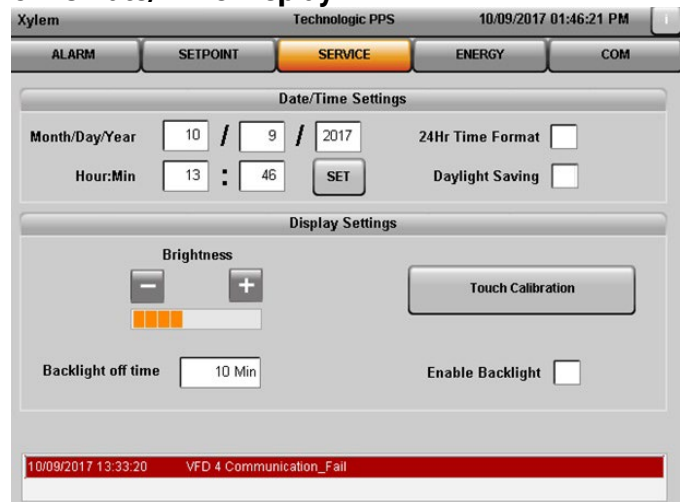

Figure 5.4.33-Date/Time Display
Date and Time can be set from [Date/Time] Page. Tap on [Service] button and then tap on [Date/Time] button to navigate to this page. See **Figure 5.4.33**.
- **Month/Day/Year** – Enter the current **month, Day and Year** in their respective input Space as shown in **Figure 5.4.33**. **For example:** 1st January 2017 should be entered as 01 in [Month], 01 in [Day] and 2017 in [Year]. Tap on **[Set]** button after entering Month, Day and Year to set the date.
- **Hour:Min**– Enter the hours using the 24 hour format and Minutes from 0 to 60 in their respective input Space as shown in **Figure 5.4.33**. **For example:** 9:30 p.m. should be entered as 21 Hours and 30 Minutes.